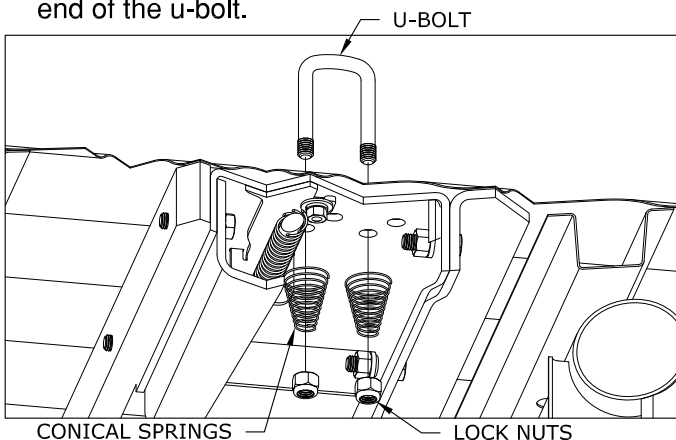

FIGURE G3: Cut away view of bed and center section
- 3. Add springs.** Place a conical spring over each leg of the u-bolts and secure with a  $\frac{1}{2}$ " lock nut, see figure G3. Tighten the lock nut until the nut is flush with the end of the u-bolt.